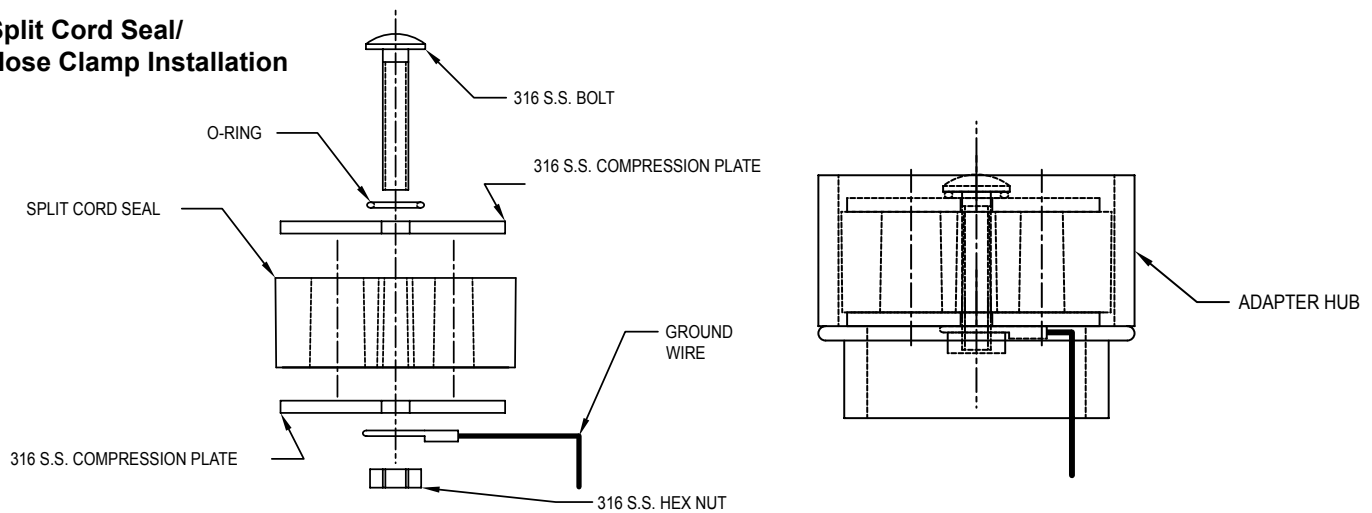

Figure 6
7. Install split cord seal on the pump and float switch cords. The cord seal holes are marked with a P, F, or A - the pump cord uses the hole marked P, the piggyback switch cord uses the hole marked F, and the alarm float cord goes in the hole labeled A. The small end of the split cord seal should face the THIN WALL CONDUIT. If the control float and/or alarm float switches are not being installed, it will be necessary to plug the unused hole(s). Use the PVC rod(s) supplied with the "Qwik-Box" (See Fig. 6).